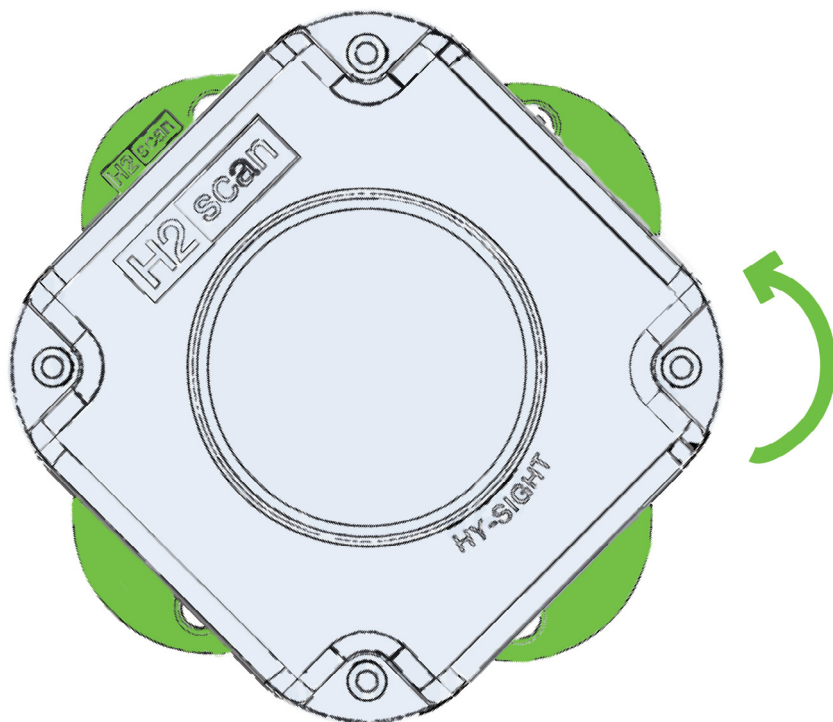

Figure 2: Separate Wall Mount
1. To separate the Wall Mount from the HY-SIGHT, rotate the HY-SIGHT 45 degrees counter-clockwise (see Figure 2).